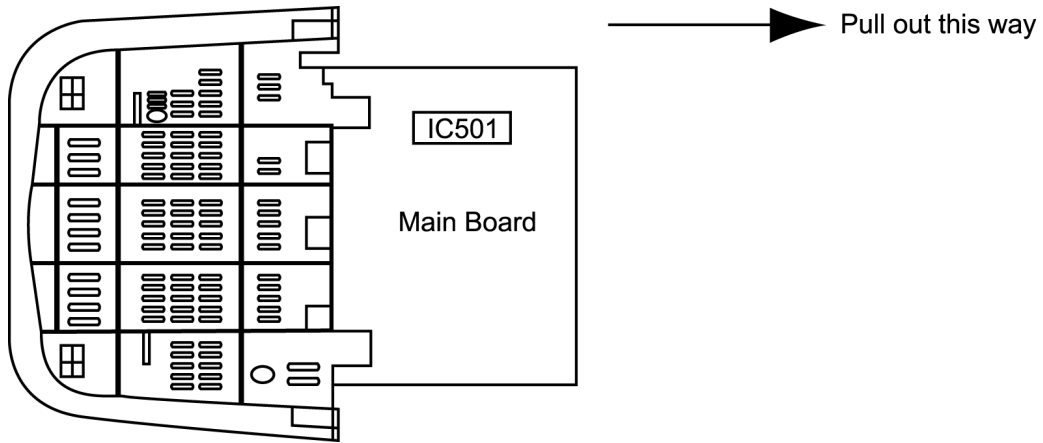

Fig. 2
2. Stand the TV set as shown in Fig. 2.
3. Remove the A-Board from the TV set by pulling the main board out as shown in Fig. 2.